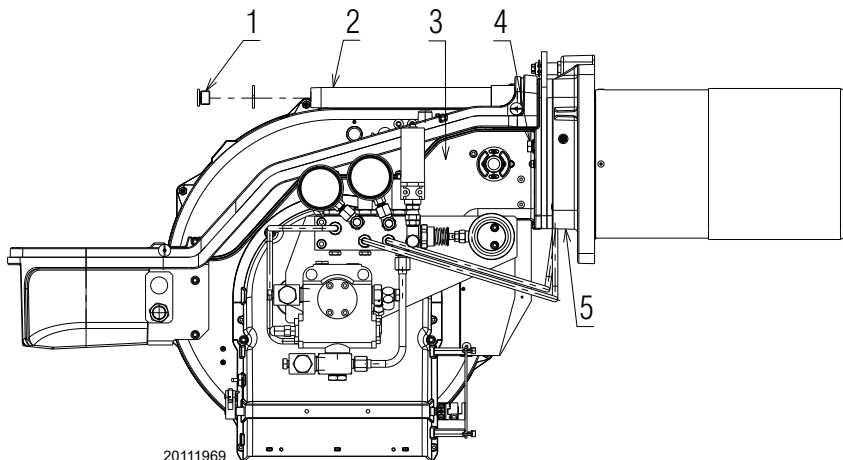

Fig. 23
- Finally remount the burner 3)(Fig. 23) on the slide bars 2) and slide it up to the flange 5), keeping it slightly raised to prevent the flame stability disk from pressing against the blast tube.